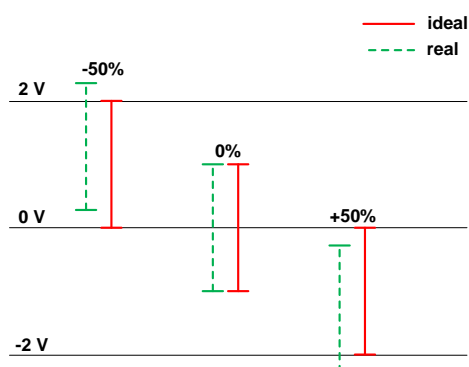

Fig. 7.7: Input signal DC offset adjustment description
- **“DC Offset” box:** sets the value of the DC Offset applied to the channel, expressed as the percentage of the Full Scale Range. Allowed values range between -50% (Full negative) and +50% (Full Positive). The DC Offset is a DC value added to the input signal by the input stage of the Digitizer in order to fit the signal dynamic range to the ADC input dynamics. Theoretically, the value of 0 (DC Offset = “0”) means that the input pulse DC level is set at half of the ADC dynamics (e.g. 2048 counts for the 720 series). The value of “50” (DC Offset = “50”) sets the DC level at the lower dynamics limit (i.e. 0 counts), while the value of “-50” (DC Offset = “-50”) sets the DC level at the upper dynamics boundary (i.e. 4095). The real DC offset adjustment implemented in the DPP-CI firmware is shown in **Fig. 7.7**: in order to preserve from saturation the input signals near the dynamics boundaries, setting the DC offset to -50 or +50 puts the signal baseline respectively a step up the upper boundary and a step under the lower boundary.